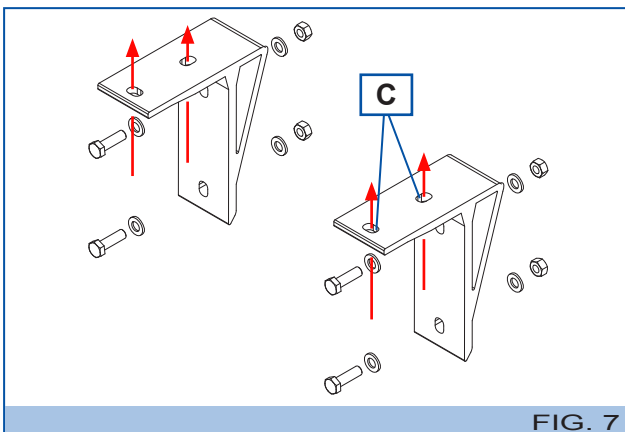

FIG. 7
- 7 ▫ Fasten the BRACKETS to the CEILING, inserting the plugs into the holes made on the ceiling, and secure the brackets in the holes (D - fig. 7) using the dedicated screws.